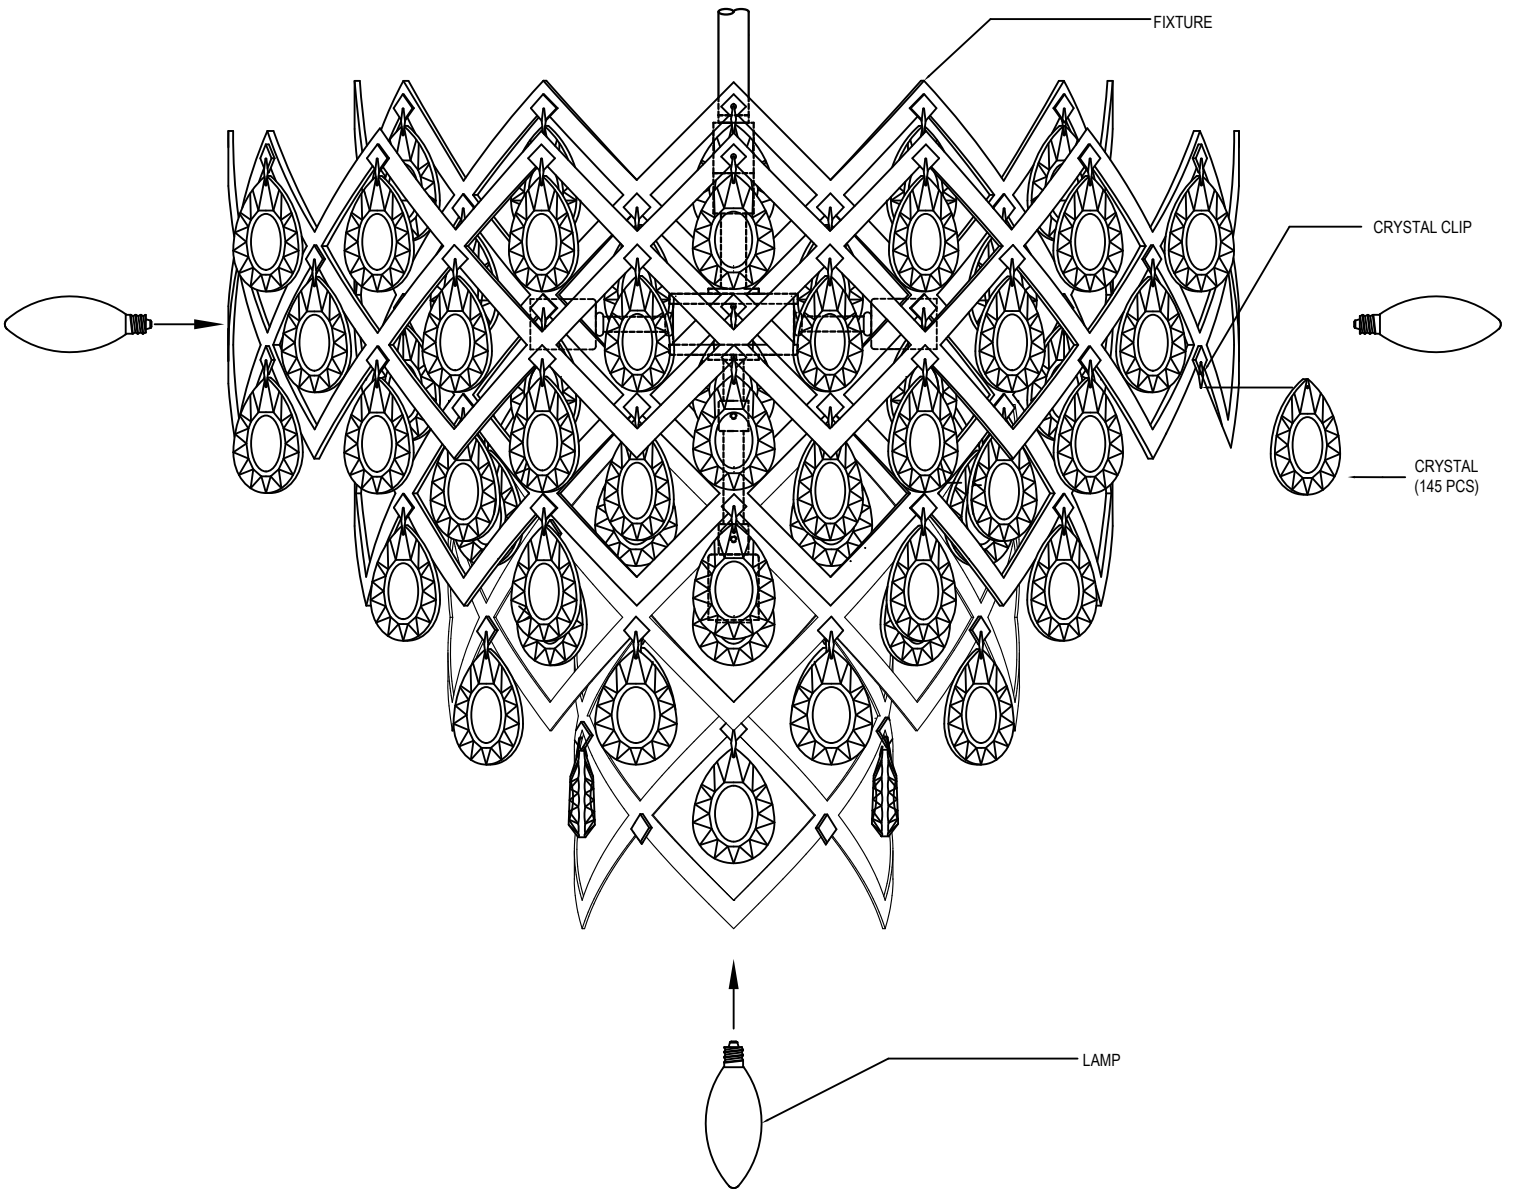

FIGURE-2
12. Hang the crystals following the crystal schedule as seen in figure-2.